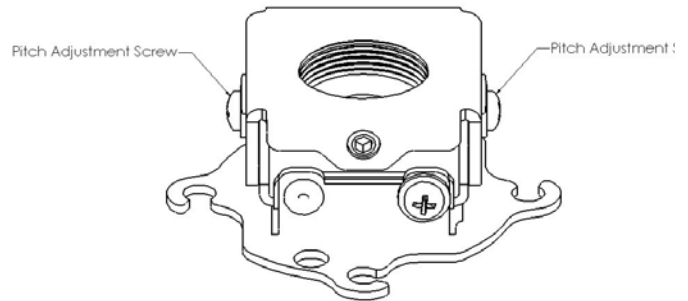

Figure 13. Pitch Adjustment Screws
1. Loosen the 10-24X3/8" pitch adjustment screws located on each side of the adjustment plate (see Figure 13).